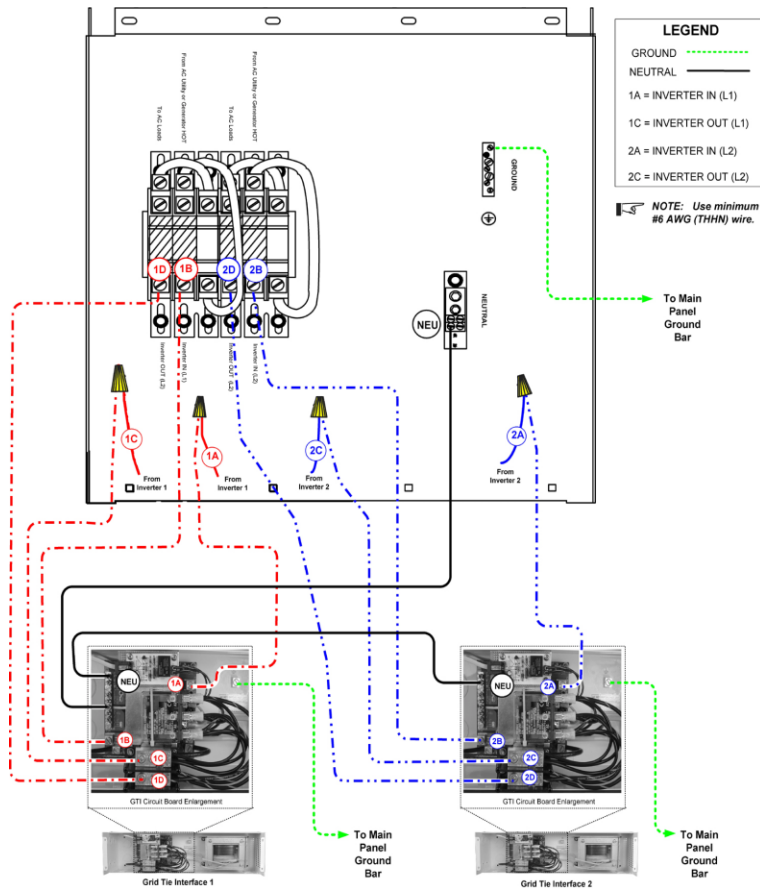

Figure 2-10a
See Figure 2-10a for an illustration of the power module re-wiring.
3. Inside each GTI, locate and label the terminals 1B, 1D, 2B, and 2D as labeled in Figure 2-10a.